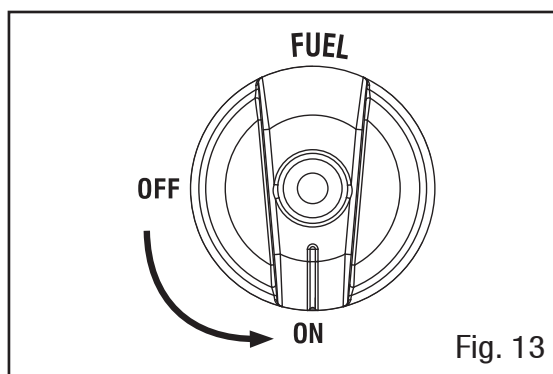

Fig. 13
2. Turn the FUEL switch (Fig. 13) to the “ON” position.
5. When engine starts, push the CHOKE LEVER in to the “RUN” position (Fig. 13).